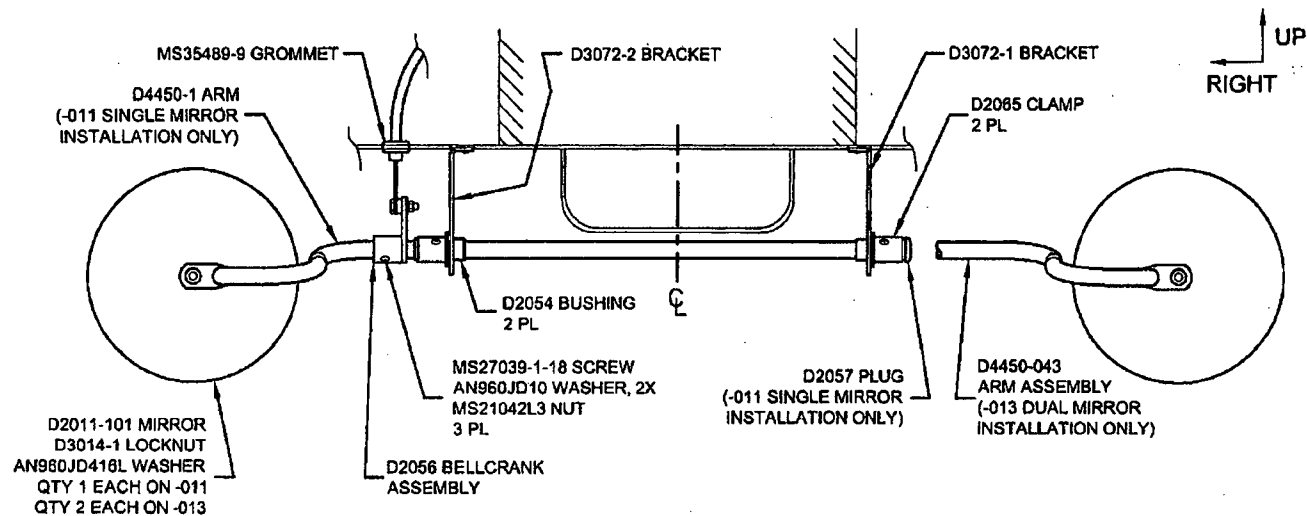

FIGURE 1
2. Install D4450-1 Arm and replacement D2057 Plug in accordance with Figure 1 of this service instruction.
3. Install D2011-101 Mirror to D4450-1 Arm using D3014-1 Locknut as shown in Figure 1 of this service instruction.
2. Install D4450-043 Arm Assembly in accordance with Figure 1 of this service instruction.
3. Install 2 X D2011-101 Mirrors to D4450-043 Arm Assembly using D3014-1 Locknuts as shown in Figure 1 of this service instruction.